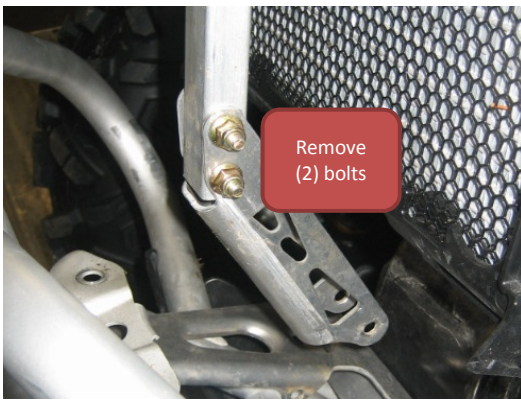

Figure 13
- Remove two additional bolts that attached the radiator bracket to the radiator support arm (Figure 13). Set aside bracket